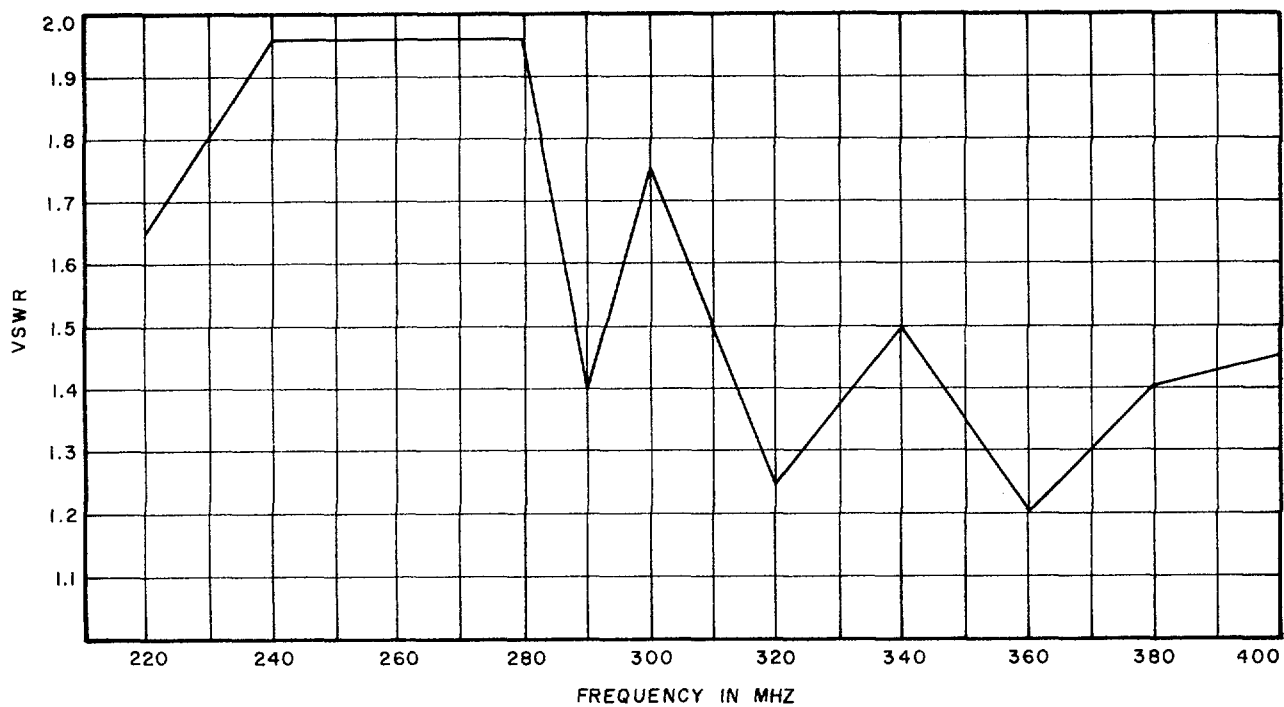

Figure 4-18. Antenna AS-1404/PRC-41, Voltage Standing-Wave Ratio
(2) ANTENNA AS- 1404/PRC -41. - Antenna AS-1404/PRC-41 is used with RT-695A/PRC-41 for reception and transmission of signals in the 225.0- to 399.9-MHz range without electrical or physical adjustments. The AS-1404/PRC-41 has a nominal input impedance of 50 ohms. The azimuthal plane voltage pat-terns are shown in figure 4-17forseveral frequencies in the range. These patterns apply when AS-1404/ PRC-41 is mounted and operated on RT-695A/PRC-41. The voltage standing-wave ratios for frequencies between 220 and 400 MHz are shown in figure 4-18 when the AS-1404/PRC-41 is mounted and operated on the RT-695A/PRC-41. When AS-1404/PRC-41 is operated on Mast AB-777/PRC-41, the voltage standing-wave ratio properties and the voltage patterns are approximately the same as when operated on RT-695A/PRC -41.